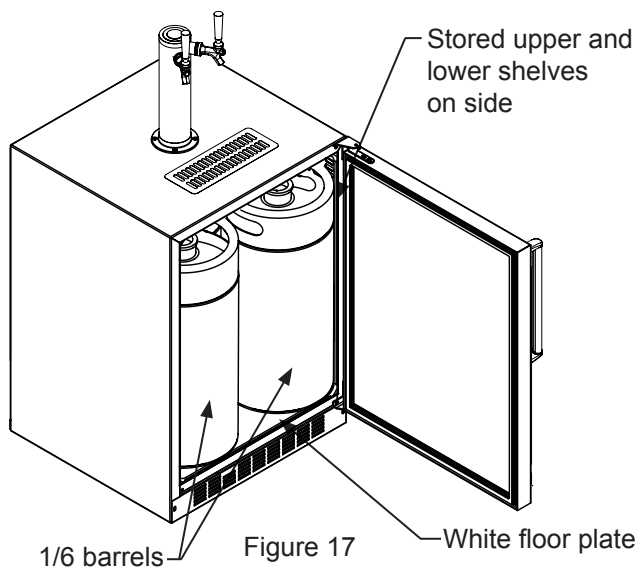

Figure 17
If you are using a half barrel (keg) or (2) 1/6 barrels, place the two shelves on the right side of the kegerator on the two mounting hooks for storage. (See Figure 17). Be sure the white floor plate is in the bottom of the interior compartment before positioning the barrel(s).